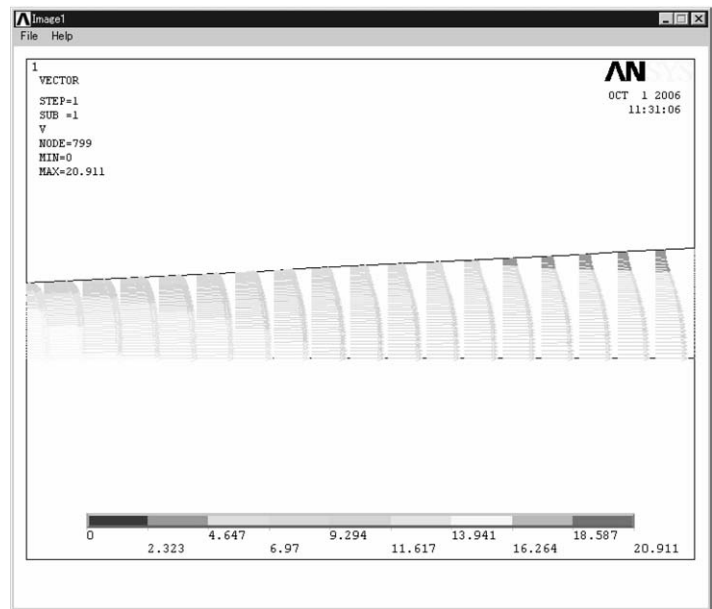

Figure 5.32 ANSYS Graphics window.
- (1) Select [A] **DOF solution – Velocity V** and click [B] **OK**.
- (2) The calculated result for velocity vectors appears on **ANSYS Graphics** window as shown in Figure 5.32.